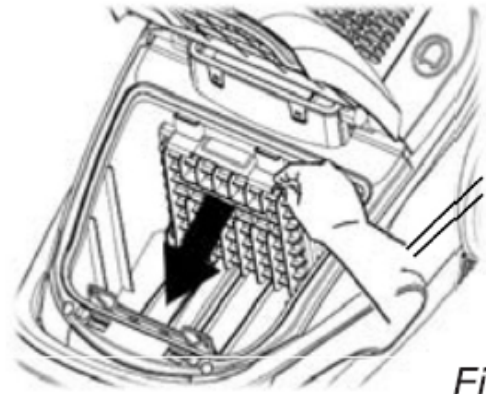

Fig.22
2. Remove the filter holder with motor protection filter (Fig 22). Slightly press it down and then pull the filter forwards and out.